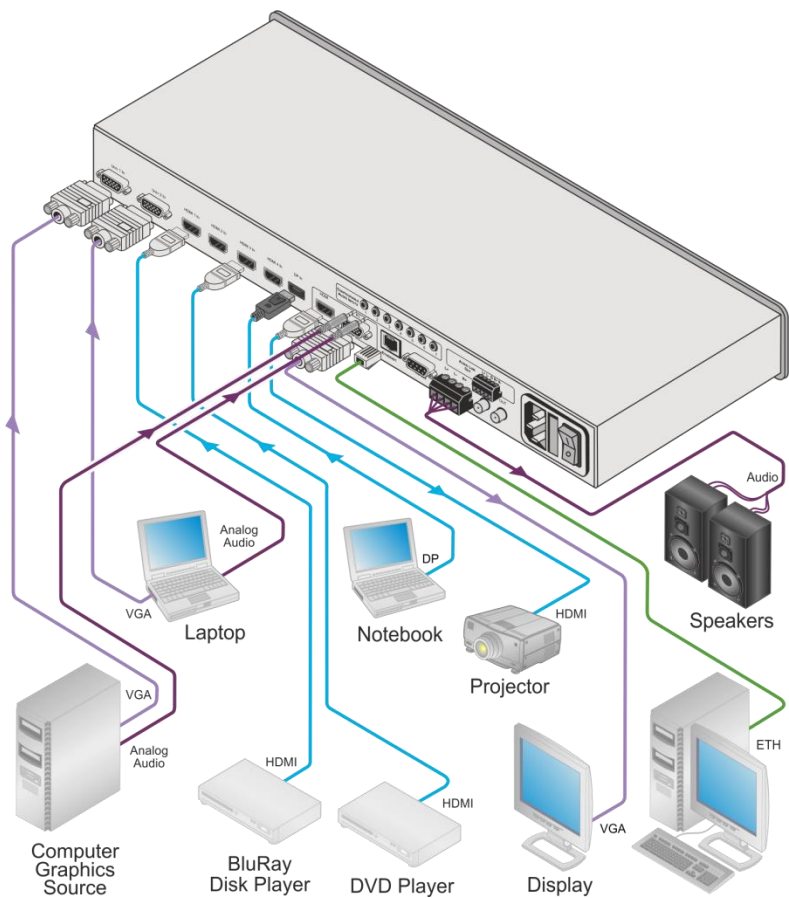

Figure 3: Connecting to the VP-734 Rear Panel
To connect the **VP-734** as illustrated in the example in Figure 3, do the following:
2. Connect the analog stereo inputs to the 3.5mm mini jack connectors (from 1 to 7), not shown in Figure 3.
4. Connect the S/PDIF IN RCA connector to a digital audio source (for example, a DVD player), not shown in Figure 3.
The USB connector, audio sources and acceptors, and power cord are not shown in Figure 3.